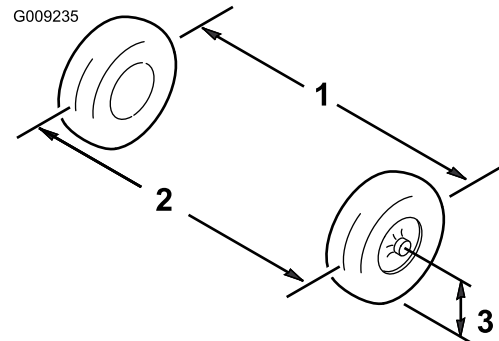

Figure 57
1. Measure the distance between both of the front tires at the axle height at both the front and rear of the front tires (Figure 57).